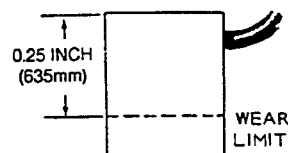

FIGURE 4. BRUSH WEAR LIMIT
**Brush Inspection:** If brushes are worn shorter than 1/4 inch (6.35 mm), replace them. Check to see that brushes move smoothly in the brush holders (Figure 4).